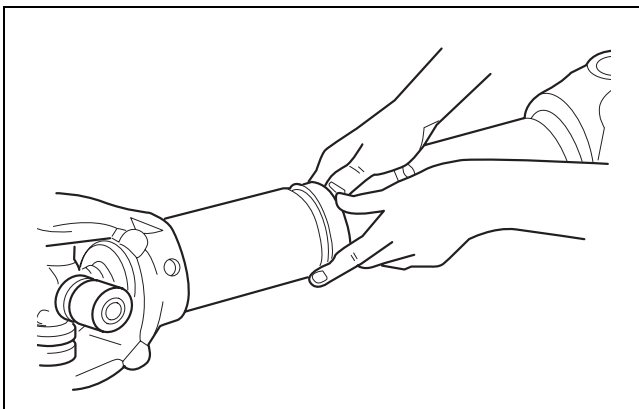

Figure 8.24
- Snap the seal into the groove. Figure 8.24.